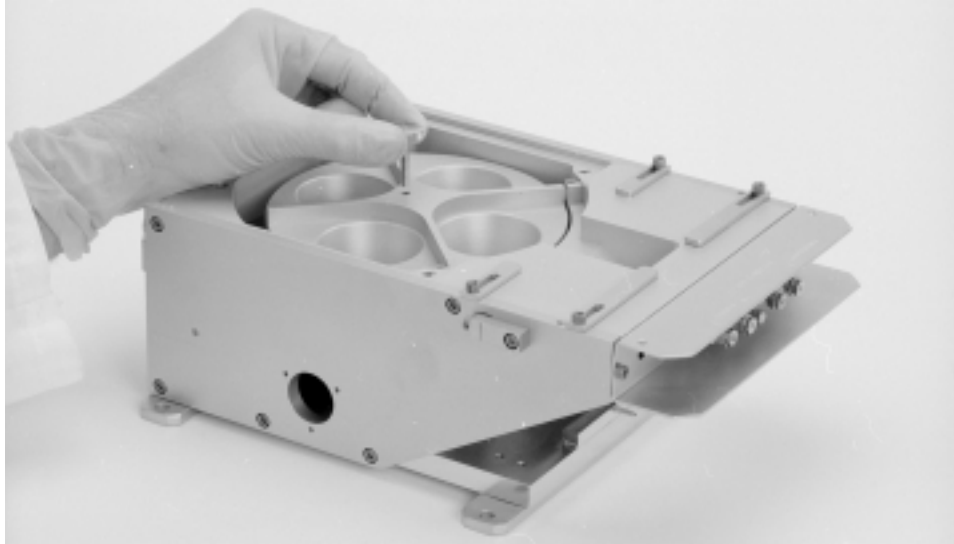

Figure 5-8. Installing the knurled crucible removal tool
Step 7: Screw the knurled thumbscrew into the tapped hole provided for it in the top of the crucible, as shown in Figure 5-8. Then rotate the crucible so that the off-center thumbscrew is toward the rear of the source.